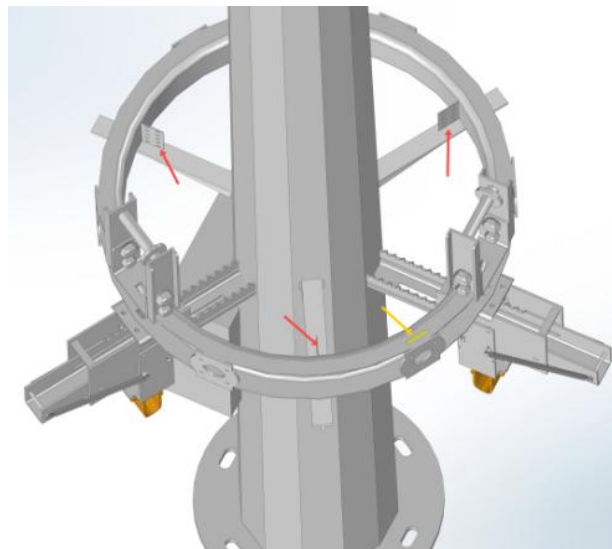

Figure 13
1. Level the carriage using the adjusters underneath it. Use the fitted spirit level indicated by the yellow arrow in Figure 13 to check that the carriage is level. Secure the hanging main cable at the designated point on the carriage inner ring, indicated by the red arrow in Figure 13.